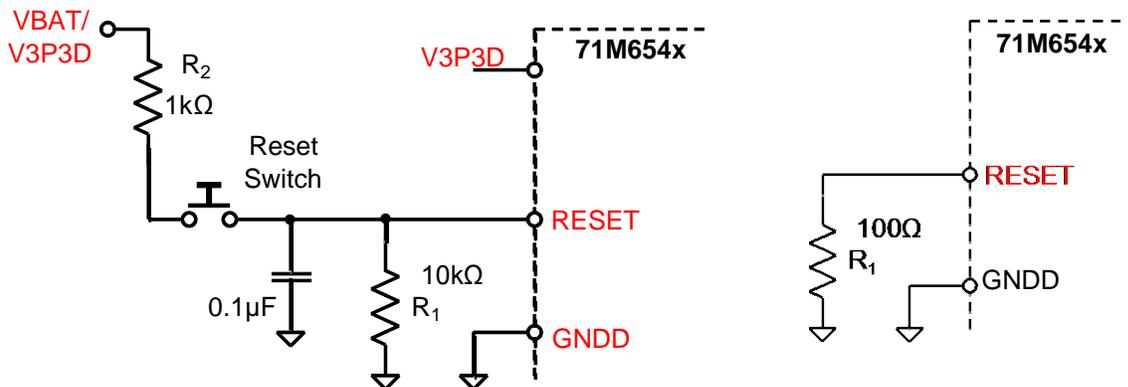

Figure 42: External Components for the RESET Pin: Push-Button (Left), Production Circuit (Right)
Even though a functional meter does not necessarily need a reset switch, it is useful to have a reset pushbutton for prototyping as shown in Figure 42, left side. The RESET signal may be sourced from V3P3SYS (functional in MSN mode only), V3P3D (MSN and BRN modes), or VBAT (all modes, if a battery is present), or from a combination of these sources, depending on the application.
- ✓ For a production meter, the RESET pin should be protected by the external components shown in Figure 42, right side. R1 should be in the range of 100Ω and mounted as closely as possible to the IC.
Since the 71M6541D/F/G and 71M6542F/G generate their own power-on reset, a reset button or circuitry, as shown in Figure 42, is only required for test units and prototypes.